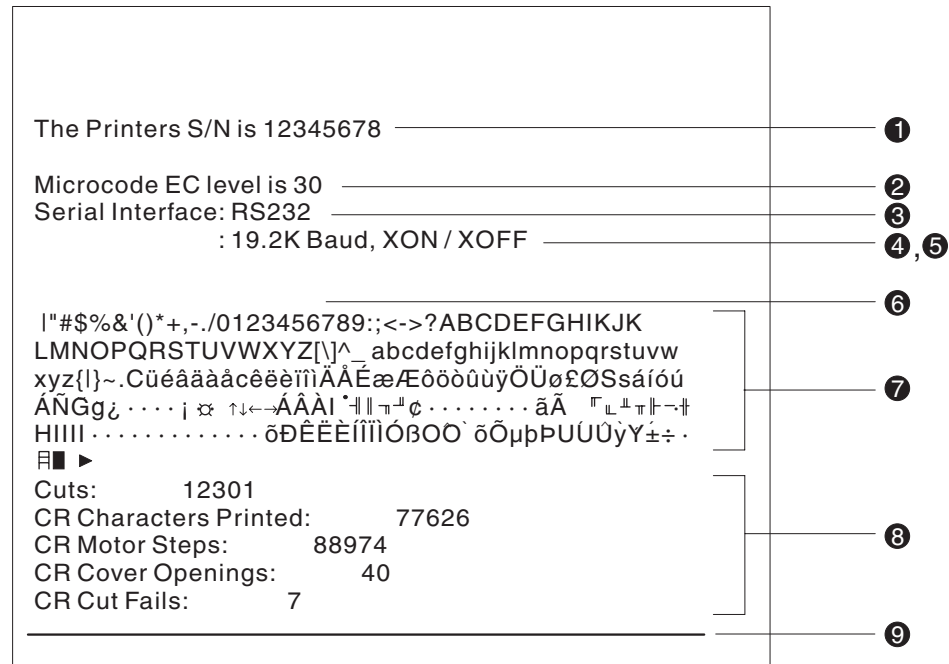

Figure 39. Offline Printer Test Pattern – Models TF6 and TM6
5. See Figure 39 on page 77 and verify that your printer has printed correct information for your model and configuration:
If any characters that appear in Figure 39 on page 77 are missing from the test pattern you print, or if the solid line is missing, go to Table 4 on page 78.